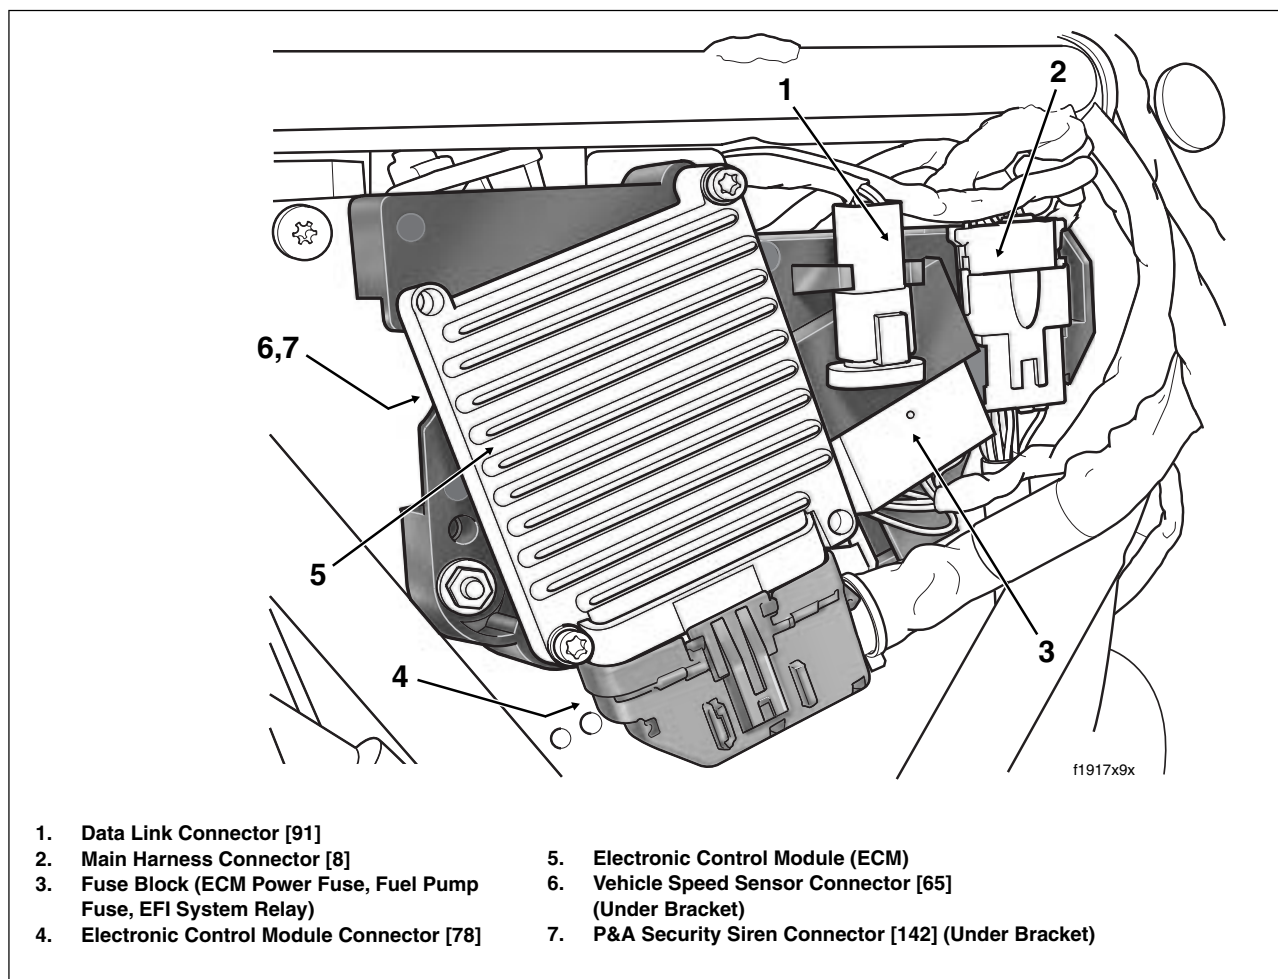

Figure 9-2. Electrical Bracket Assembly
See Figure 9-2. The electrical bracket assembly is mounted beneath the side cover on the right side of the vehicle. The electrical bracket assembly carries the following components:
4. Gently pull on data link connector [91] to disengage from arms on electrical bracket. See Figure 9-2.
3. Depress external latch and use rocking motion to remove ECM connector [78]. See Figure 9-2.
1. Align holes in ECM with those in electrical bracket. Install two socket screws and tighten to 50-60 **in-lbs** (5.7-6.8 Nm). See Figure 9-2.